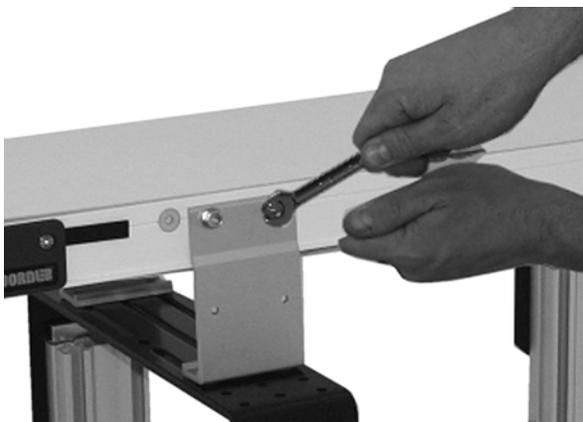

Figure 21
4. Hand tighten the screws to secure (Figure 21). Recommended torque is 150 in.lbs (17 Nm).